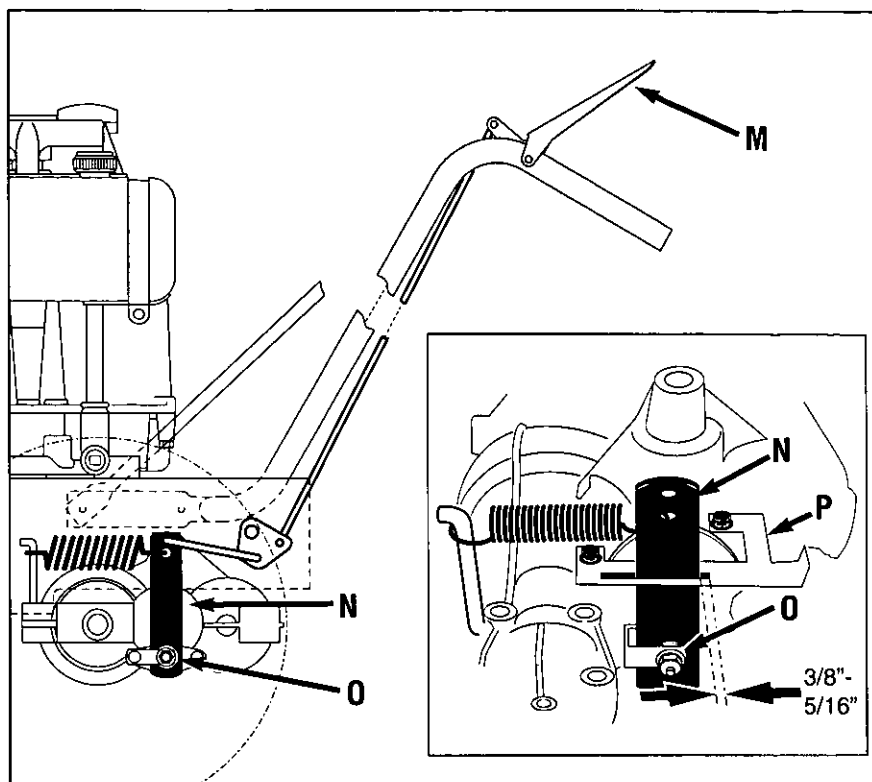

Figure 5-13: Wheel brake adjustment.
2. Disengage (release) the Operator Presence Control (M, Figure 5-13).
3. Slowly adjust at nut (O), if necessary, until the distance between the back of brake arm (N) and bracket (P) is  $3/8''$ - $5/16''$ . Use small adjustments ( $1/4$  turn maximum). **NOTE:** It may be necessary to relieve spring tension when decreasing distance. To do so, have an assistant engage the Operator Presence Control while you adjust the nut.
3. Hold down Operator Presence Control (M, Figure 5-13) and push unit forward and backward. Unit should move freely. If not, continue with Step 4.